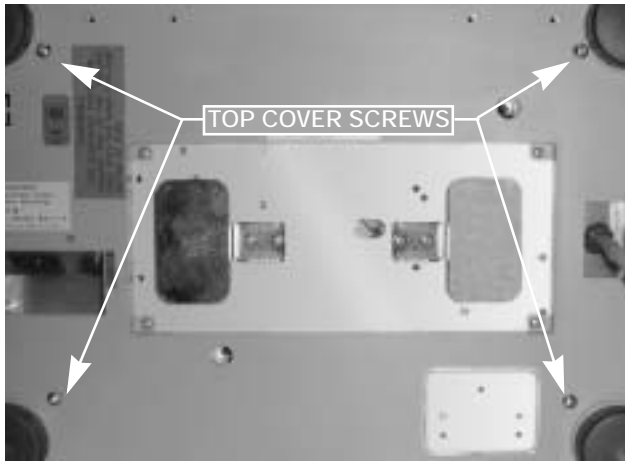

Figure 2-7. Location of Top Cover Screws
- Place scale on side. Remove four top cover screws (shown in Figure 2-7). Set scale on legs and remove top cover.
3. Turn scale on side. Remove the four panhead machine screws for top cover (Figure 2-7). Set scale on its four legs and remove top cover.